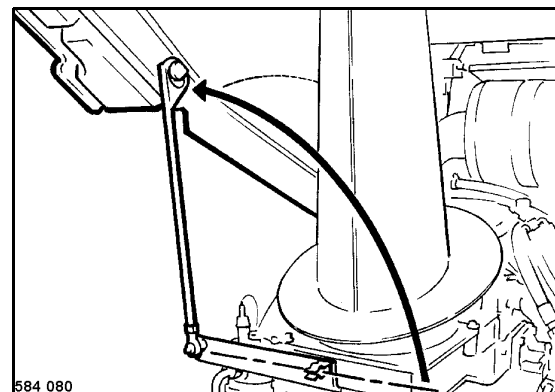

Fig. 75
- Pull the support out of the bracket and support the hood (Fig. 75).